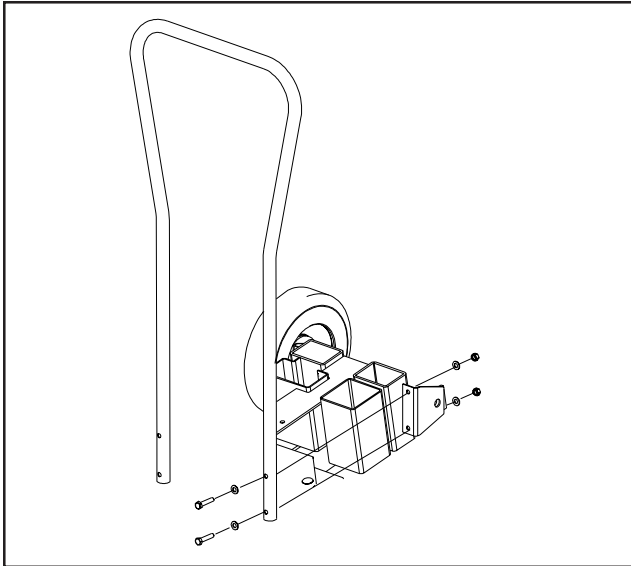

FIGURE 1
1. Attach handle Part # 2718 to Kaddy frame using: 5/16-18NC x 1 1/2" long hex head cap screws, washers and lock nuts. Place washer on cap screw, insert screw into handle and through frame bracket, add flat washer and hex lock nut and tighten. (See Figure 1.)